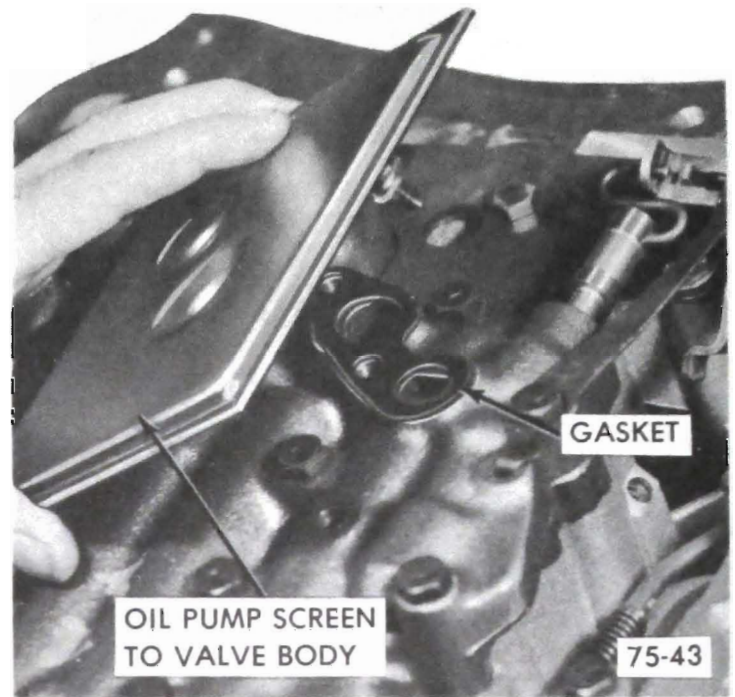

Figure 75-278
8. Install strainer assembly gasket and strainer. See Figure 75-278. Install strainer and gasket exactly as shown. Always flush out screens and check for foreign material.